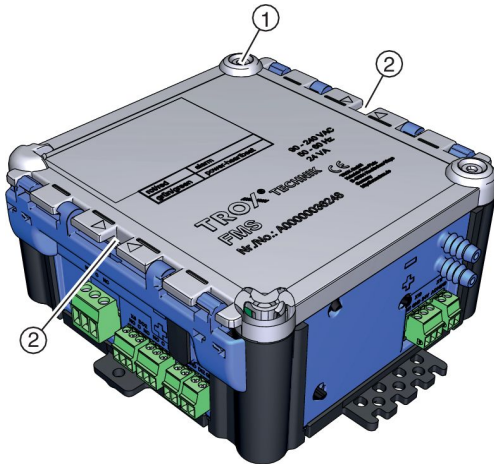

Fig. 10: Gaps that facilitate opening the casing cover
- ▶ Loosen the screw (Fig. 10/1) and insert a screw driver into one of the gaps (Fig. 10/2) to unclip the cover.